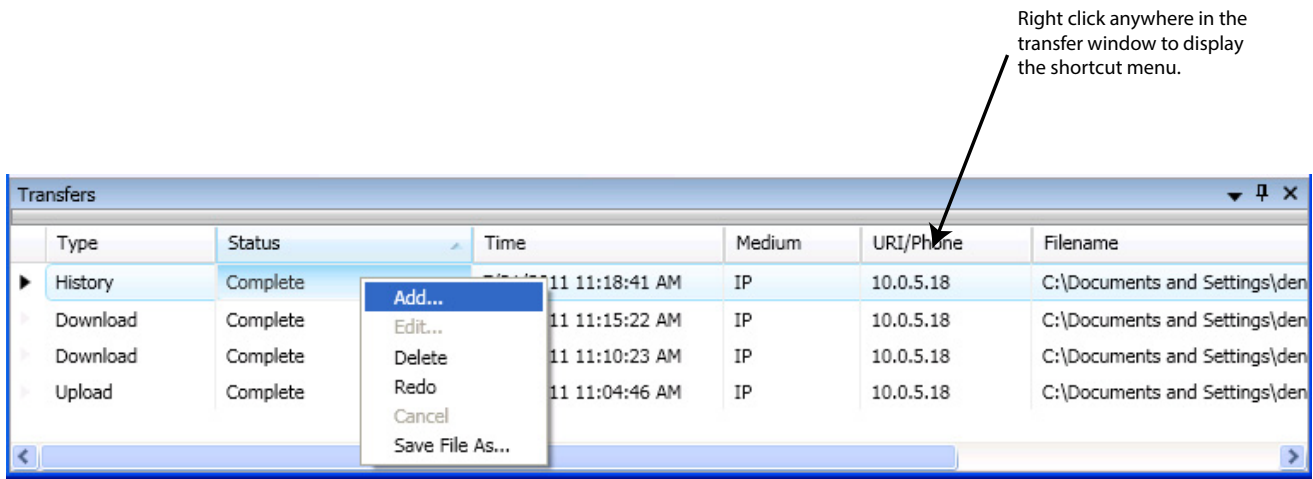

Figure 34. Example of Transfer Shortcut Menu
1. Click the **Upload Configuration File to Computer** icon or right-click from the Transfers region as shown Figure 34: